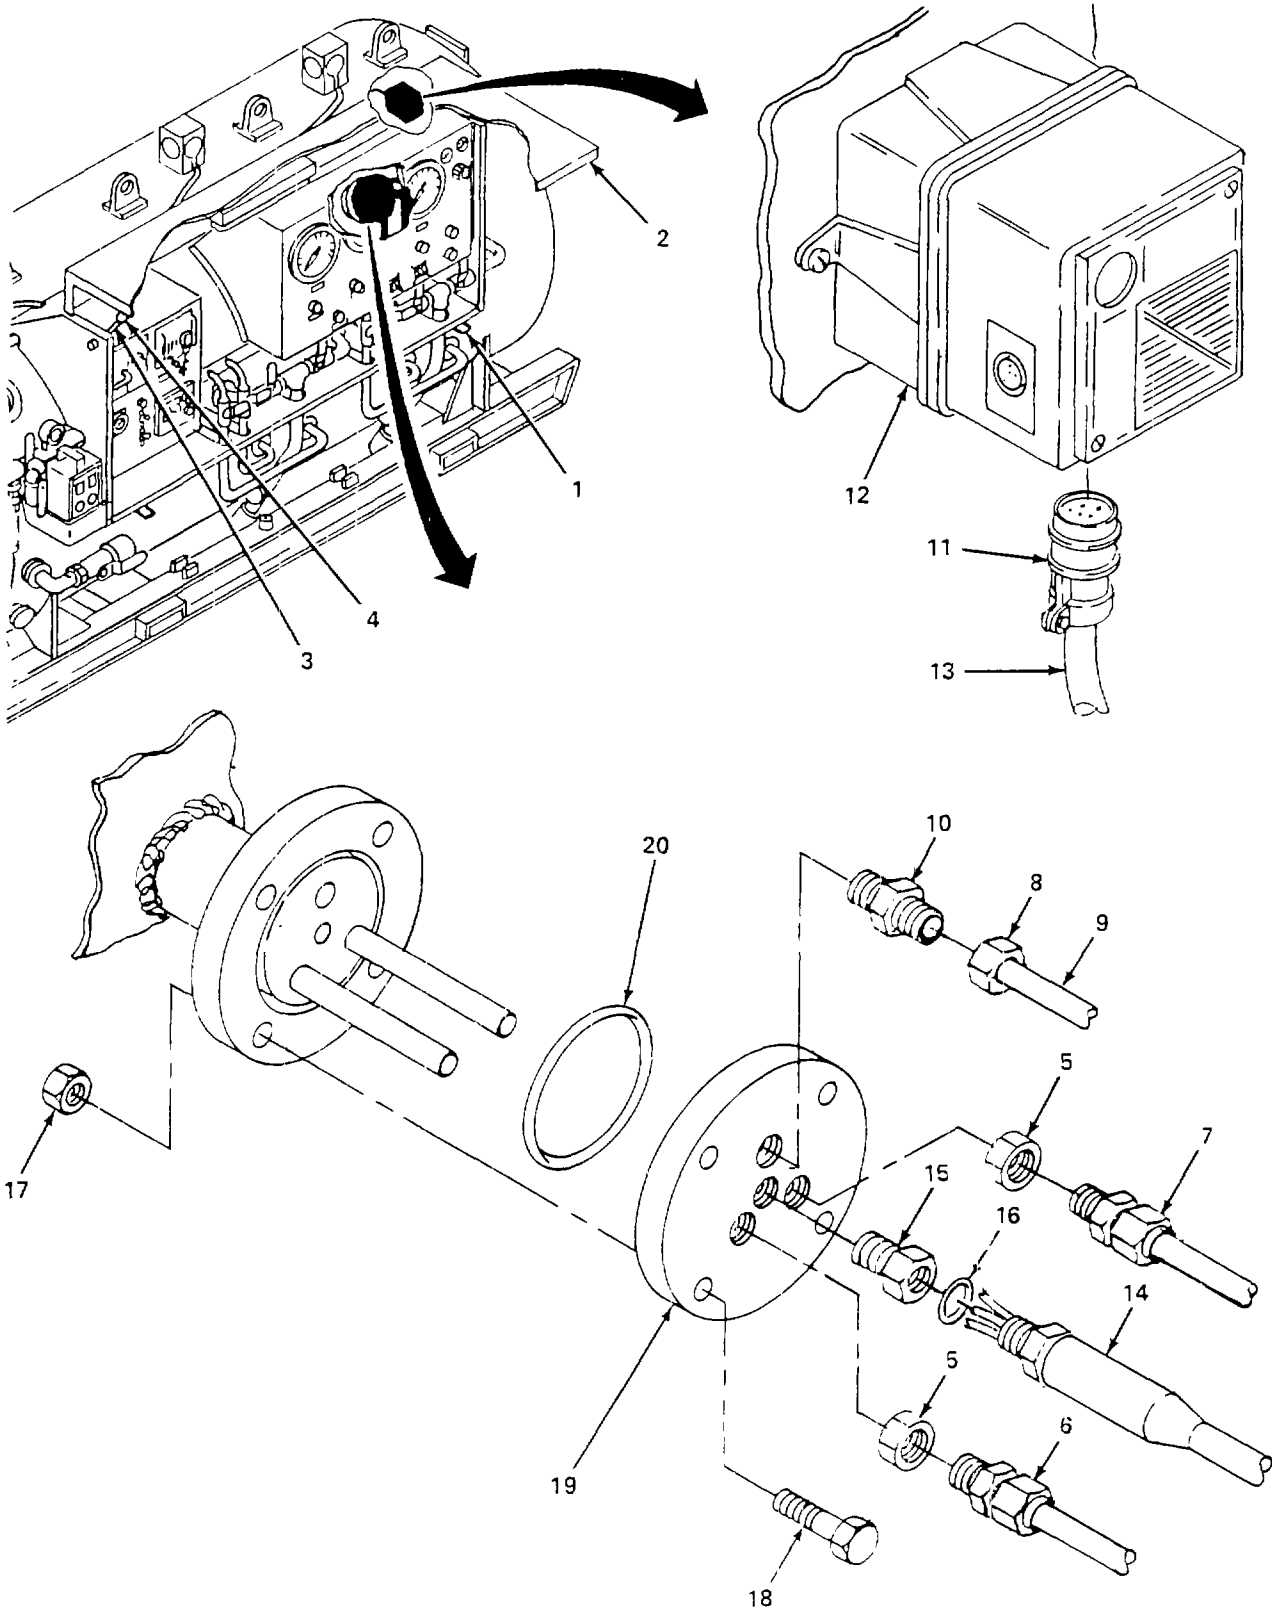

Figure 6-8. Electrical/O₂ Penetrator, Replace.
- (9) Install plug (11) into male tube connector (12).
- (10) Install fitting (10) and line (9) and tighten fitting nut (8).
- (11) Install two fitting nuts (5).
- (12) Install two lines (6) and (7) and tighten fitting nuts (5).
- (13) Remove two pins (4), supports (3), close enclosure door (2), and secure with two latches (1).
c. Replace Electrical/O2 Penetrator. (figure 6-8)
- (1) Unlatch two latches (1), open enclosure door (2), and install two supports (3) and pins (4).
- (2) Loosen two fitting nuts (5) and remove lines (6) and (7) and fitting nuts (5).
- (3) Loosen fitting nut (8) and remove line (9) and fitting (10).
- (4) Remove plug (11) from speakers (12).
- (5) Desolder wires from connector (11).
- (6) Remove spiral wrap (13).
- (7) Remove electrical penetrator (14) from fitting (15) and pull wires out.
- (8) Remove preformed packing (16) and fitting (15).
- (9) Remove four nuts (17) and bolts (18) and remove flange (19) and preformed packing (20).
- (10) Install preformed packing (20) and flange (19) and secure with four bolts (18) and nuts (17).